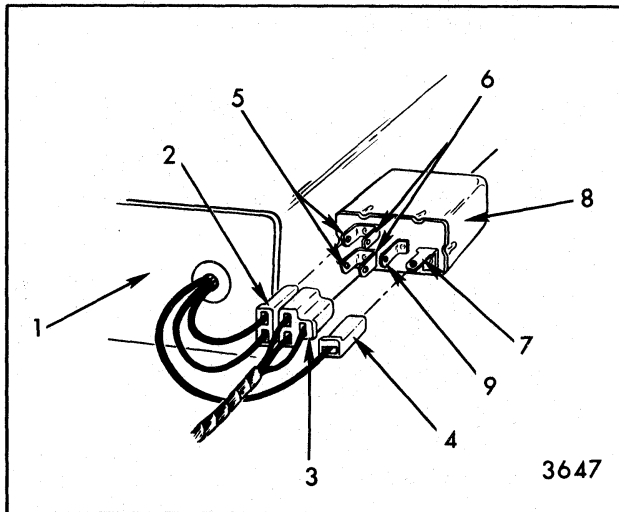

Fig. 10-22-Seat Adjuster Motor Control Relay
1. Disengage triple connector body from seat motor relay terminal (Fig. 10-22).
1. Disconnect three motor leads (double and single connector) from relay assembly. These are wires leading from the motor to relay (Fig. 10-22).